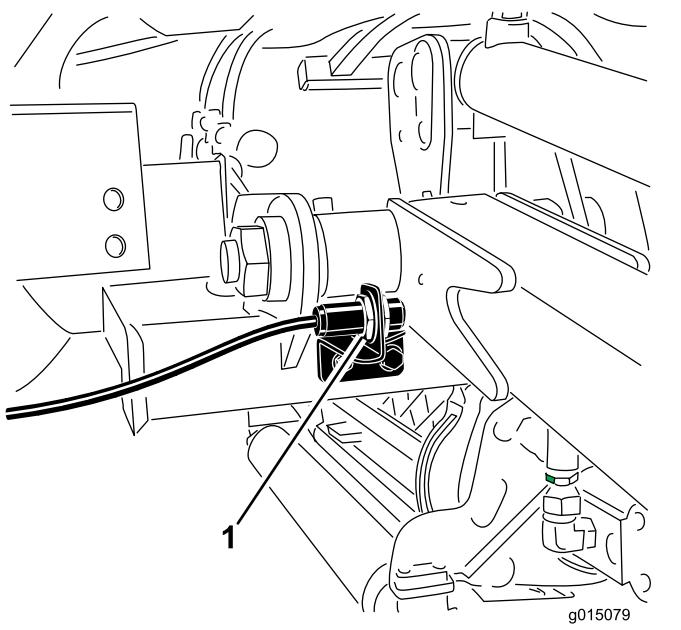

Figure 60
2. The lift arm switch is located behind the front right lift arm (Figure 60).
3. Loosen the switch mounting screws (Figure 60) and move the switch up to increase the lift arm turn around height or move the switch down to decrease the lift arm turn around height. Tighten the mounting screws.